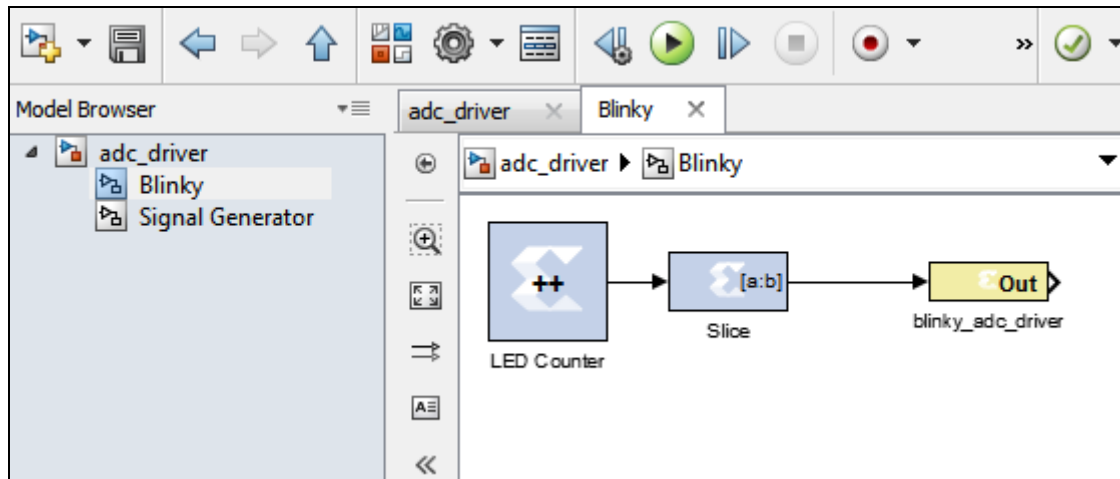

Figure 2-5: Blinky Subsystem
2. The white box labeled “Blinky” is simply a subsystem of the **Counter Slice** and LED **Gateway Out** blocks. The Blocks used for this subsystem are shown in Figure 2-5. Configure the Blinky subsystem identically to the other LED out systems in the previous labs.